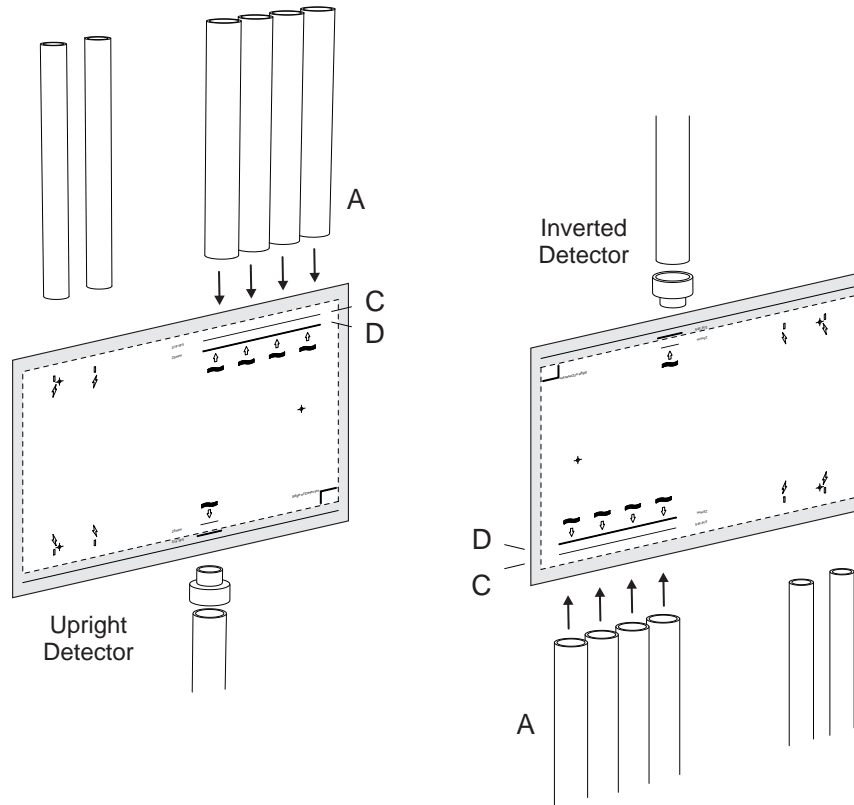

Figure 4-23: Position mounting template
1. Position the mounting template to allow sampling pipes (A) to horizontally line up with the alignment marks (B) and vertically align with the appropriate pipe depth line (Figure 4-23):
- 3/4 inch IPS pipe (1.05 inch OD) should vertically align with the top depth line (C).
- 25mm pipe should vertically align with the bottom depth line (D).